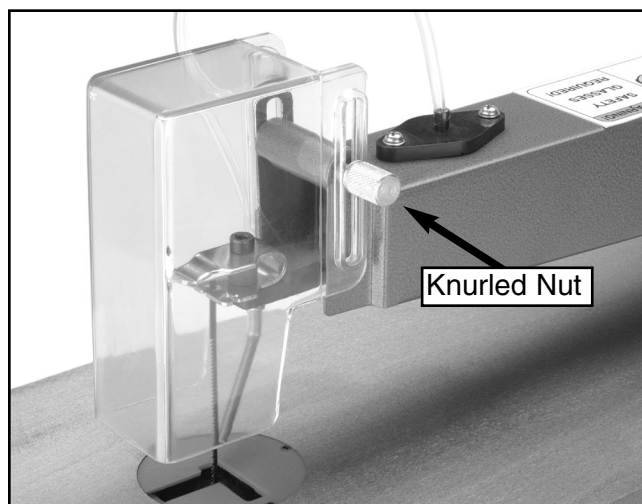

Figure 5. Blade guard adjustment.
3. Adjust the dust blower mounting plate and the blade guard so that they ride just above the workpiece, and tighten the knurled nut shown in **Figure 5**.